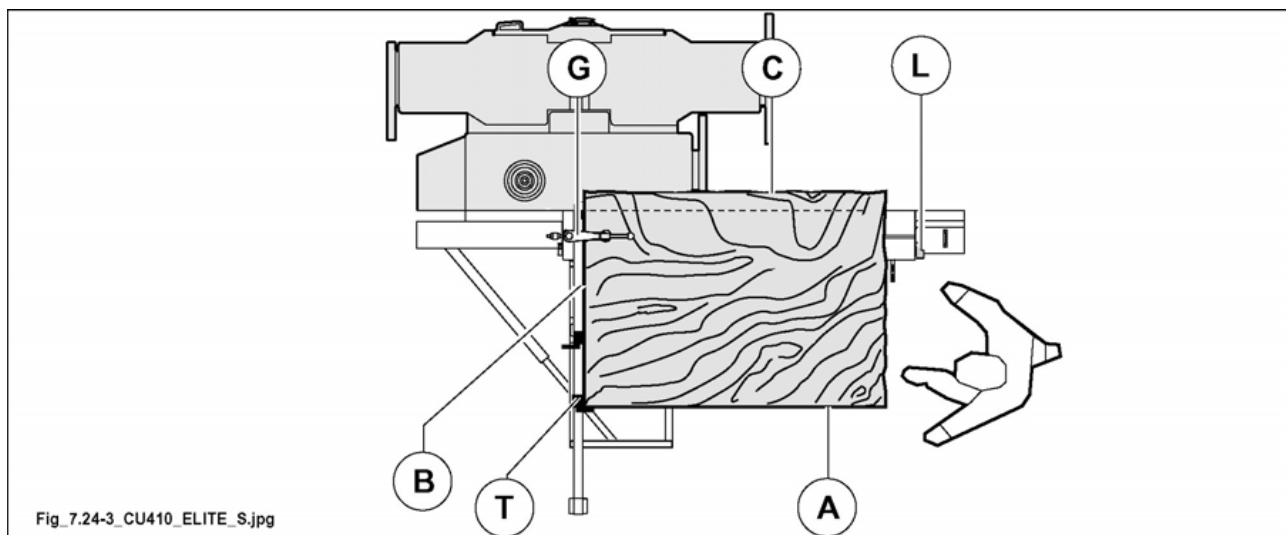

Fig. 7.24-3
- Move the sliding table to the end of stroke (see fig. 7.24-3), lock lever (L fig. 7.24-3).
- Turn the panel 90° again. Rest side (B fig. 7.24-3) against aluminium rule and trimmed side (A fig. 7.24-3) against stop (T fig. 7.24-3) set to the cutting measure; lock the panel with clamping device (G fig. 7.24-3) carry out cut (C fig. 7.24-3).